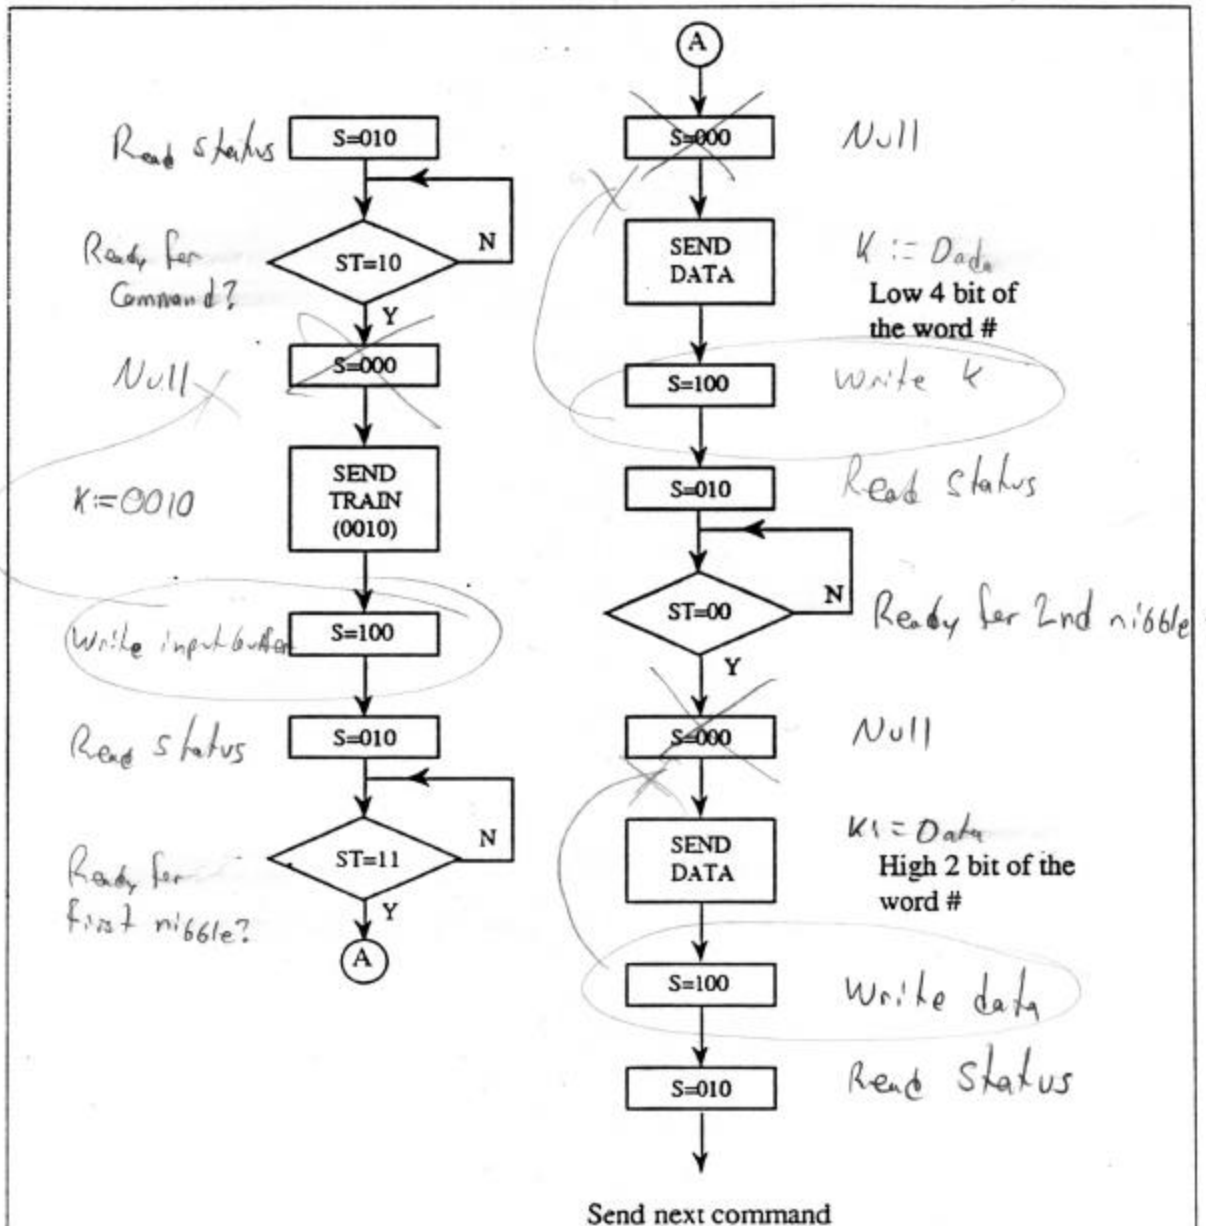

Fig 3. Control flow of the CPU mode for training.
If the number of the pattern is valid and WAIT pin is "H", HM2007 will begin its training process for the corresponding word. If WAIT is "L", HM2007 will skip the training process. After the training process, the operation state will change back to (10) and wait for next command. Fig 3 shows the control flow of the training process.